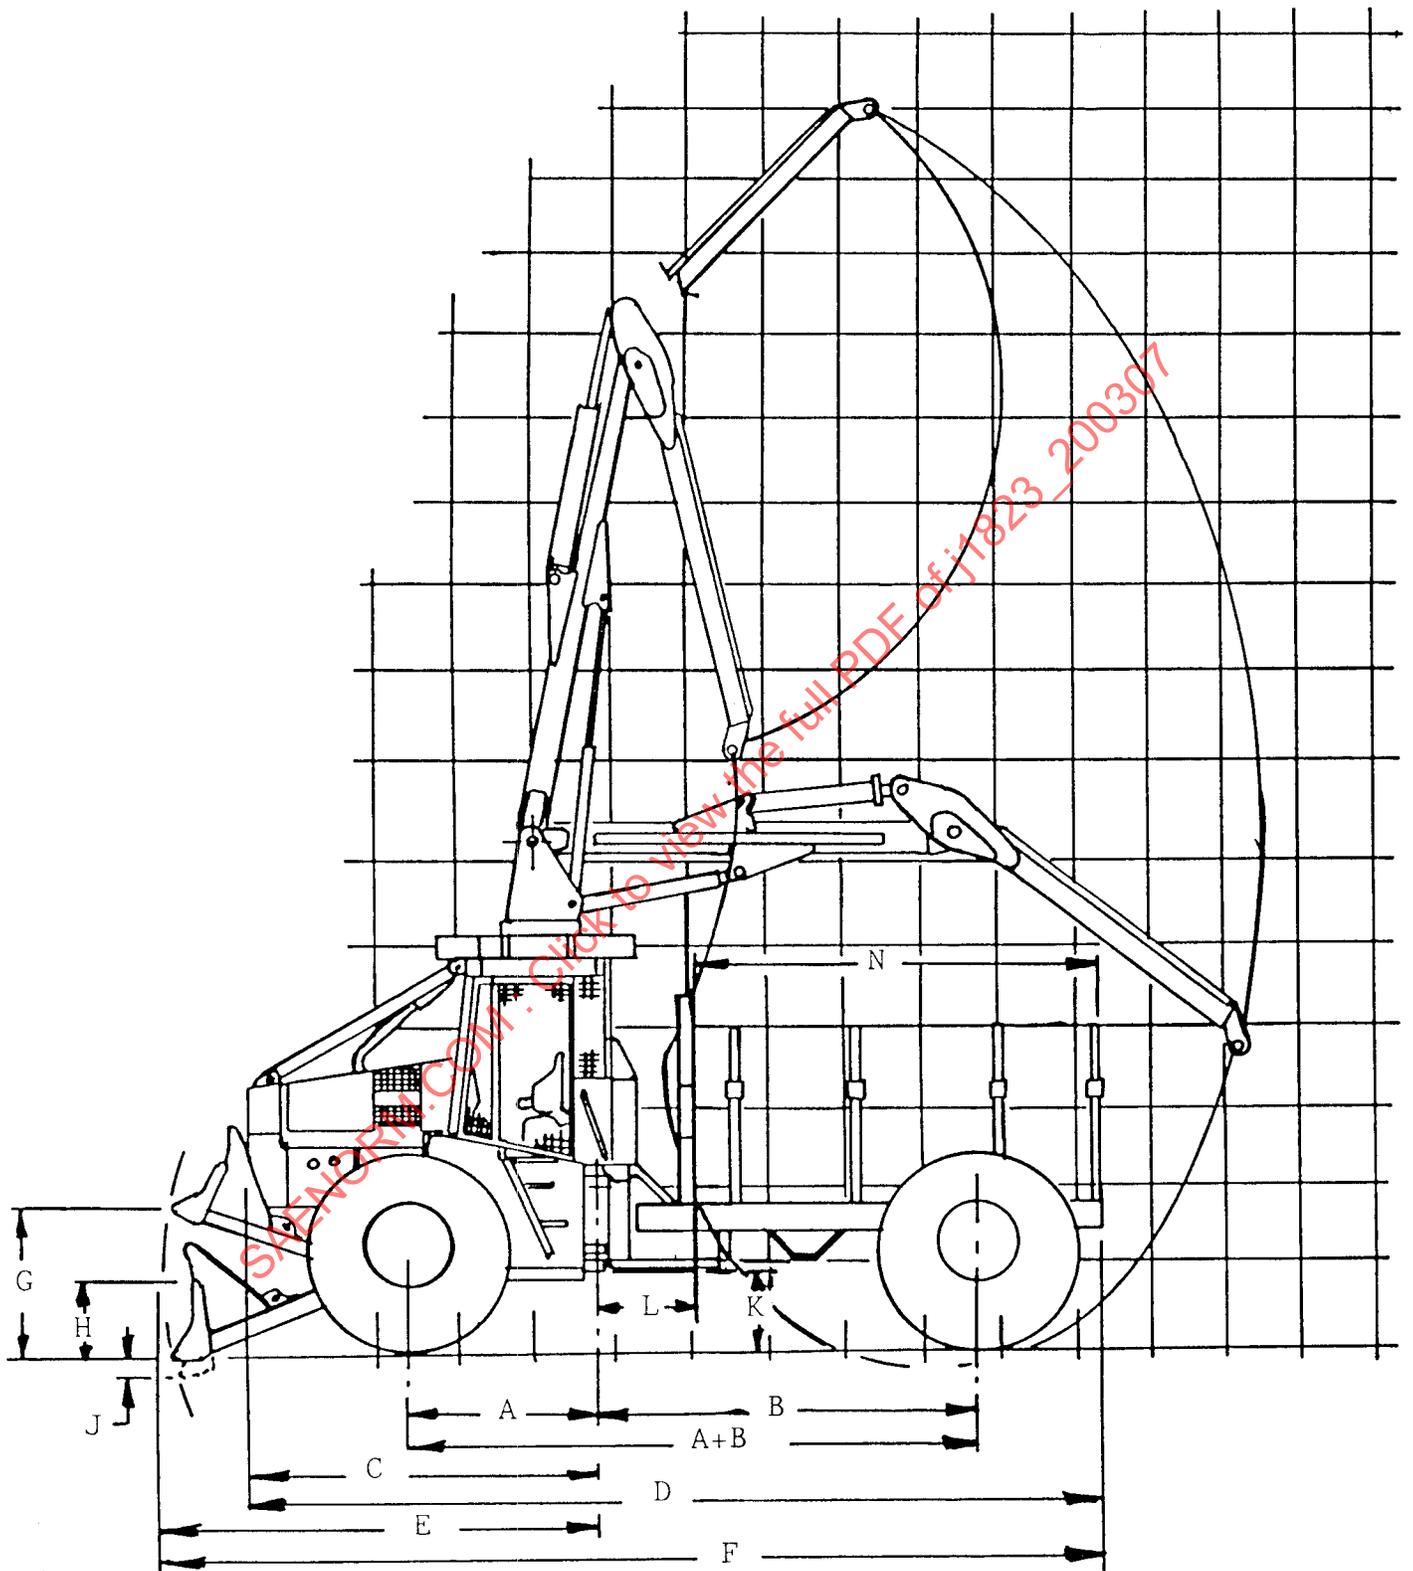

FIGURE 1—SIDE VIEW ARTICULATED RUBBER-TIRED FORWARDER
- 4.1 **Front Axle to Hinge (A)**—The horizontal distance from the center of the front axle or front tandem axle assembly to the center of the hinge. (Figure 1)
- 4.2 **Hinge to Rear Axle (B)**—The horizontal distance from the center of the hinge to the center of the rear axle or rear tandem axle assembly. (Figures 1 and 7)
- 4.3 **Wheelbase (A + B)**—The horizontal distance from the center of the front axle or front tandem axle assembly to the center of the rear axle or rear tandem axle assembly when both are perpendicular to the longitudinal axis. (Figure 1)
- 4.4 **Centerline of Hinge to Front of Machine (C)**—The horizontal distance from the centerline of the hinge to a vertical plane touching the farthest point forward, blade excluded. (Figure 1)
- 4.5 **Total Frame Length (D)**—The horizontal distance between the vertical planes perpendicular to the longitudinal axis passing through the farthest points on the front and rear of the machine, blade excluded. (Figure 1)
- 4.6 **Centerline of Hinge to Maximum Blade Arc (E)**—The horizontal distance from the centerline of the hinge to a vertical line tangent to the arc of the blade's lower edge as it passes from its maximum height (G) to the lowest position (J). (Figure 1)
- 4.7 **Overall Length (F)**—The horizontal distance from a vertical plane touching the forward most point of the machine, blade positioned to give maximum forward reach, to a vertical plane touching the rearmost point of the machine, excluding the loader. (Figure 1)
- 4.8 **Maximum Blade Lift, Lower Edge (G)**—The maximum vertical height to which the lower edge of the blade can be raised from the horizontal reference plane. (Figure 1)
- 4.9 **Blade Height (H)**—The vertical distance from the lower edge to the top of the blade, decking lugs excluded. (Figure 1)
- 4.10 **Lowest Blade Position (J)**—The vertical distance from the horizontal reference plane to the blade's lower edge with blade at its lowest position. (Figure 1)
- 4.11 **Ground Clearance at Hinge Point (K)**—The perpendicular distance from the horizontal reference plane to the lowest point at the hinge. (Figure 1)
- 4.12 **Centerline of Hinge to Headboard (L)**—The horizontal distance from the centerline of the hinge to the tree side of the headboard. (Figure 1)
- 4.14 **Headboard to Rear of the Frame (N)**—The horizontal distance between the tree side of the headboard and the rear of the frame. (Figure 1)